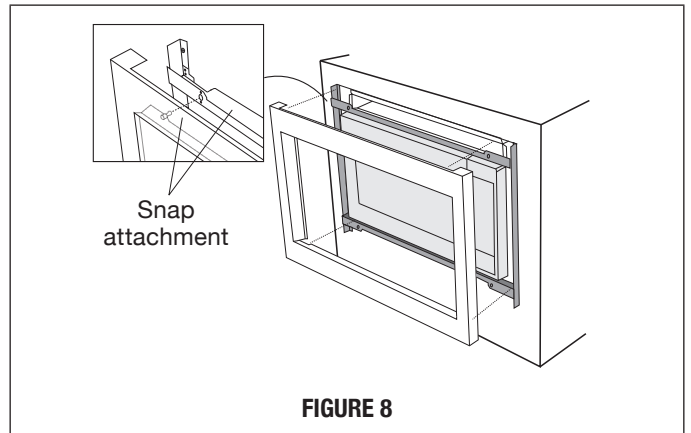

FIGURE 8
5. Install AIR DEFLECTORS top and bottom. Center (left and right) the AIR DEFLECTORS above and below the installed BACK FRAME. Secure AIR DEFLECTORS with 4 SCREWS E. See Figure 8. Mark holes and pre-drill the wood cleats with $\frac{1}{16}$ " drill bit.